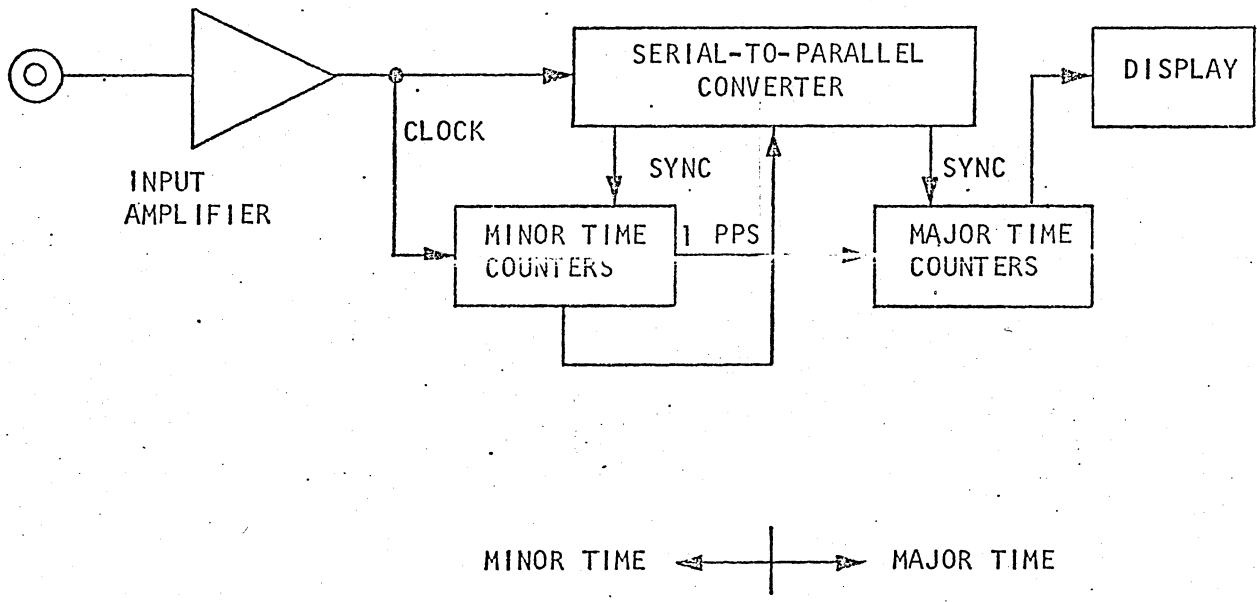

Figure 4-1. Translator, Simplified Block Diagram
- a. TRANSLATE Mode. The significant circuits for this mode (Figure 4-1) are:
- (1) Input Amplifier -- Its function is to restore the input code signal and provide a constant amplitude signal to the decode and detection circuitry.
- (2) Serial-to-Parallel Converter -- Its function is to detect digital data in the input format and assign it to storage in the Major Time Counter. This section also contains the necessary circuits to synchronize the frequency dividers.
- (3) Frequency Dividers (pulse counter and register control) -- These counters divide the code carrier frequency. Once synchronized to the input time code by the decoding circuitry in the serial-to-parallel section, this counter provides the